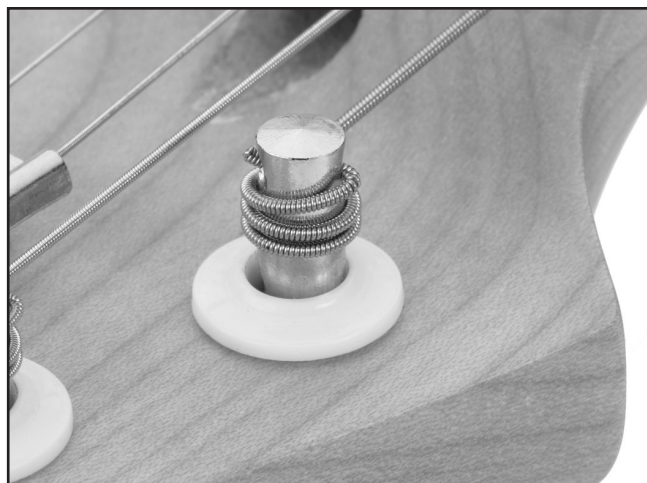

Figure 24. String wrapped around tuner.
5. Rotate the tuners until the string just begins to hold the winding tension, as shown in **Figure 24**.